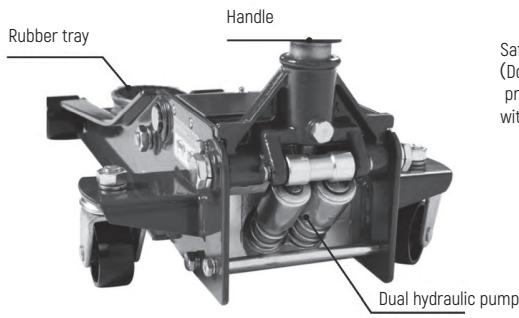

Figure 1
- 2) Insert the handle into the socket hole (see Fig. 1) .
- 3) Turn the handle counterclockwise (see Fig. 1) to open the oil return valve.